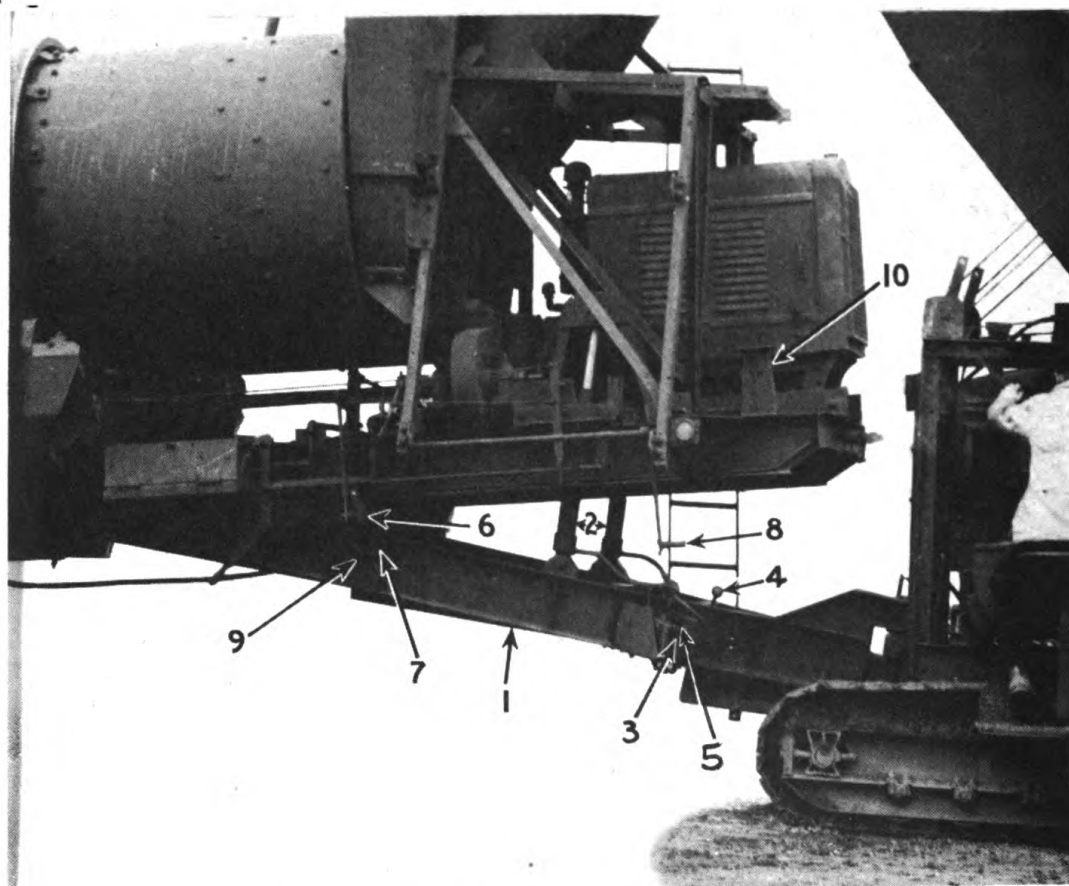

FIG. 24 - HYDRAULIC TOWING TONGUE ASSEMBLY.
TOWING FRAME (1) Fig. 24
The towing frame (1) Fig. 24, is fabricated of heavy steel structural members, welded together to form a rigid unit. One end of the frame attaches to the dryer main frame, at a point just below the front trunnion support frame. The towing frame is secured by means of pin extending thru the sides of the main frame, allowing the towing frame to pivot from that point. The towing end of the towing frame is designed to attach to the hitch on the bucket loader.
HYDRAULIC RAMS (2, Fig. 24)
Two hydraulic rams (2) Fig. 24, one on either side of the towing frame, are provided for raising the charging end of the dryer. The ram housing attaches to the towing frame, and the piston attaches to the dryer main frame. As the pistons extend, the main frame and towing frame are forced apart. With the outer end of the towing frame anchored to the bucket loader, the dryer main frame is raised as the pistons extend, causing the dryer's slope to be increased.
HYDRAULIC PUMP (3, Fig. 24)
A hand operated hydraulic pump (3) Fig. 24, mounted to the side of the towing frame, supplies hydraulic pressure to operate the rams. The pump is of the double action type, producing hydraulic pressure on both the forward and backward strokes of the pump lever (4).
The latch assembly consists of the latch dog (6) Fig. 24, latch plate (7), and lever (8) for retracting or engaging the dogs.
The slope indicator (10) Fig. 24, continuously registers the slope of the dryer drums. The indicator is located on the right front corner of the dryer main frame. The internal mechanism consists of a weighted pendulum which is geared to the pointer shaft. The pendulum is in a vertical position at all times. As the dryer slope varies, the entire indicator, with the exception of the pendulum, moves causing the pointer to indicate the correct slope. The numbers on the base of the indicator correspond to the number of degrees of slope at which the dryer is set.